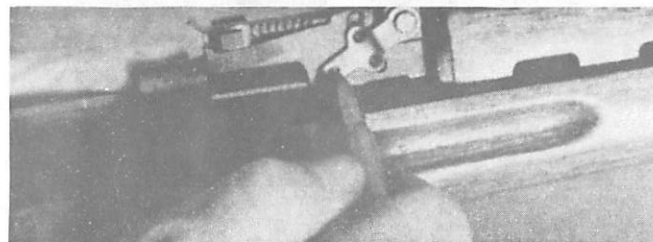

Fig. 13
5. To remove the gas piston guide tube assembly, take the point of a punch or a cartridge and place the point in the hole of the gas tube assembly lever on the right side of the rear sight base (Fig. 13). Carefully pry this part up until it reaches the end of its motion, but DO NOT PRY IT UP PAST ITS GROOVE IN THE REAR SIGHT BASE!